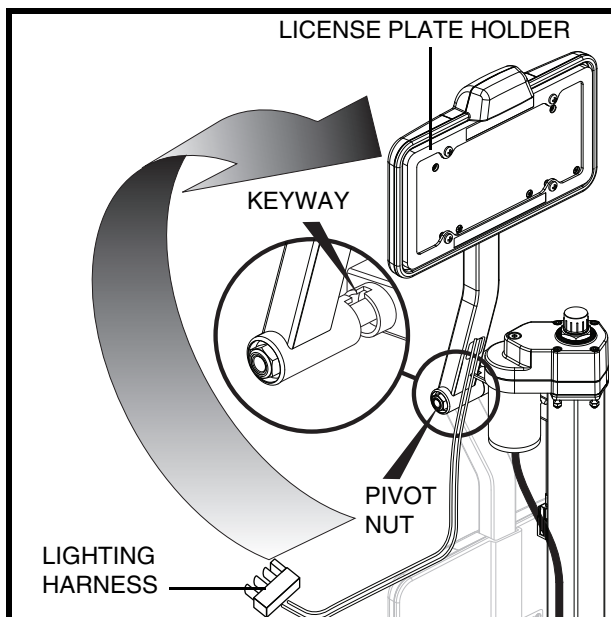

Figure 9. License Plate Holder
The license plate holder should be rotated to the upright position during installation. See figure 9.
2. Rotate the license plate holder to its upright position. Once in the upright position, the license plate holder will automatically lock into place. See figure 9.